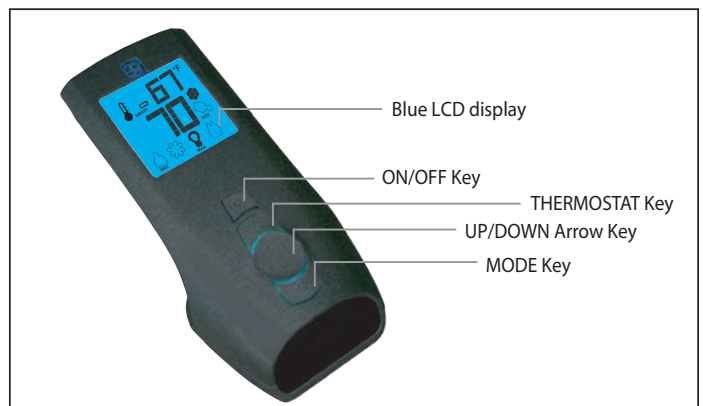
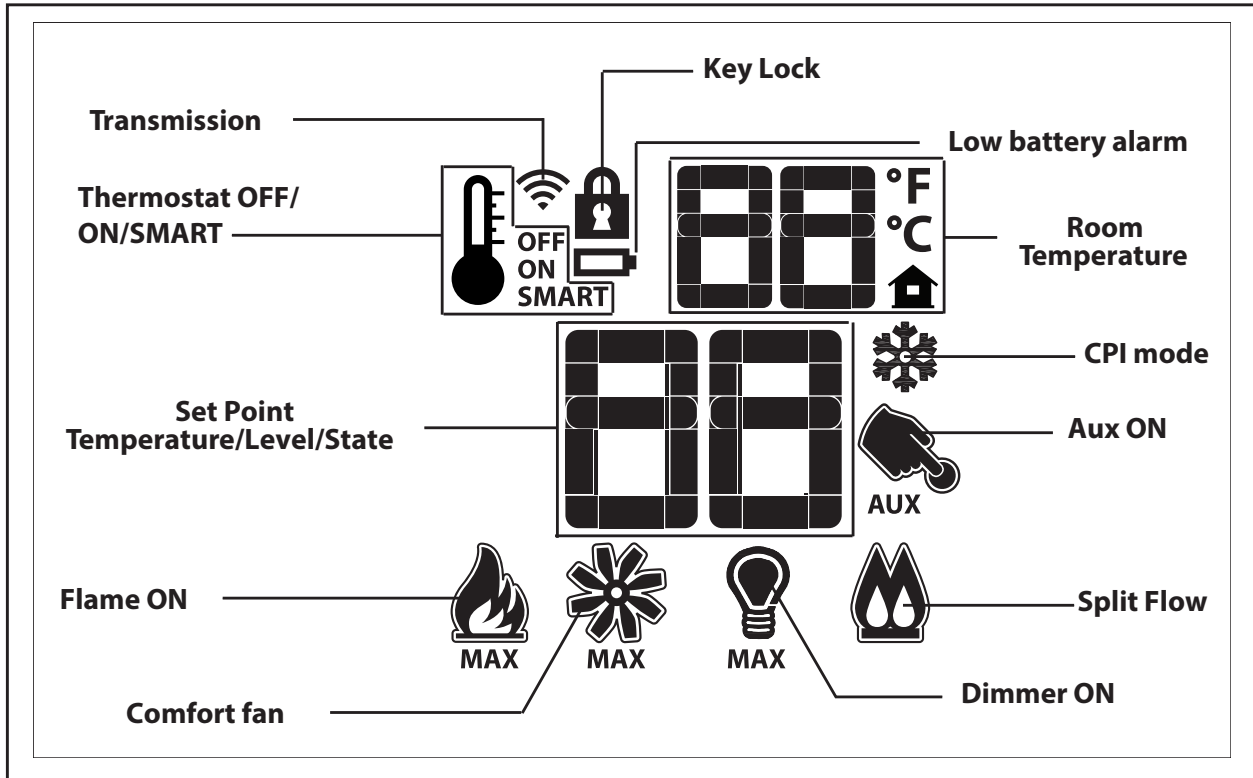
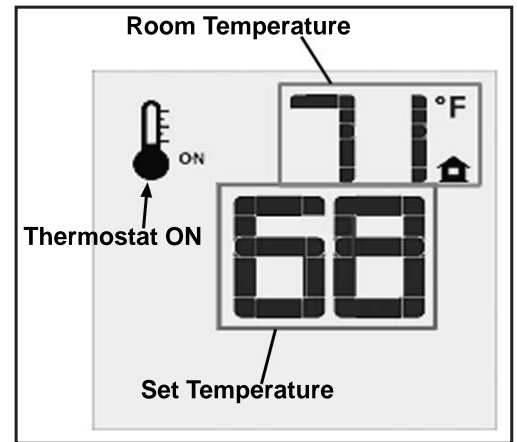
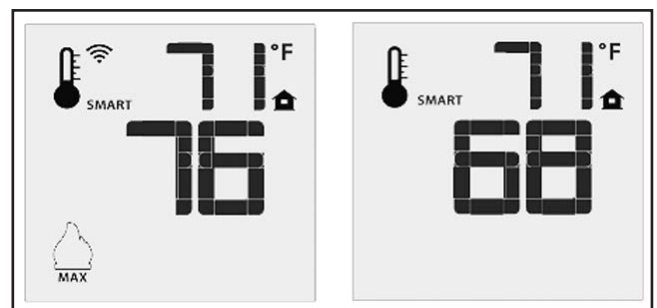

Figure 5: Proflame 2 Transmitter.
Figure 6: Proflame 2 Transmitter LCD Screen.
Figure 10: Remote Control Displays Set Temperature.
Figure 11: Remote Control's Smart Flame Function.
The Proflame 2 Transmitter is a black remote control with a blue backlit LCD display. It uses a streamline design with a simple button layout and informative LCD readout (Figure 6). The Transmitter is powered by three (3) AAA type batteries. A Mode Key is provided to Index between the features and a Thermostat Key is used to turn on/off or index through Thermostat functions (Figure 5 & Figure 6)
Press the ON/OFF Key on the Transmitter. The Transmitter LCD display will only show the room temperature and Icon (see Figure 10). A single “beep” from the IFC confirms reception of the command and both the pilot light (if the unit is not set to continuous pilot) and main burner will turn off.
The Remote Control can operate as a room thermostat. The thermostat can be set to a desired temperature to control the comfort level in a room. To activate this function, press the Thermostat Key (see Figure 5). The LCD display on the Transmitter will change to show that the room thermostat is “ON” and the set temperature is now displayed (see Figure 10). To adjust the set temperature, press the Up or Down Arrow Keys until the desired set temperature is displayed on the LCD screen of the Transmitter.
The Smart Thermostat function adjusts the flame height in accordance to the difference between the set point temperature and the actual room temperatures. As the room temperature gets closer to the set point the Smart Function will modulate the flame down. To activate this function, press the Thermostat Key (Figure 5) until the word “SMART” appears to the right of the temperature bulb graphic (Figure 11). To adjust the set temperature, press the Up or Down Arrow Keys until the desired set temperature is displayed on the LCD screen of the Transmitter.